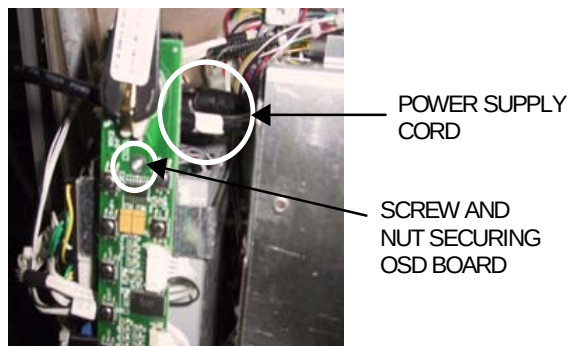

FIGURE 3 - OSD BOARD
5. Disconnect the power cord from the power supply. Remove the wing nut securing the OSD board and detach the board from the Velcro on the power supply bracket. Carefully set the OSD board aside. See Figure 3.